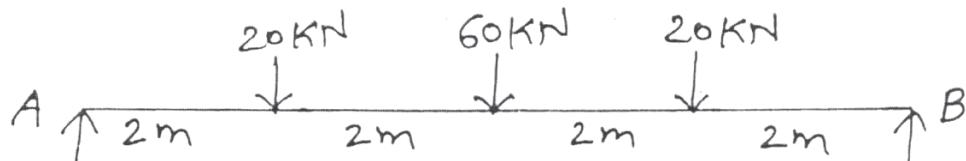

Fig. 1
- Q1)** a) A simply Supported beam of span 8m loaded as shown in fig.1. Find the shear force & bending moment at a section 4m from left end. Draw ILD for support reactions, shear force & Bending Moment. [9]